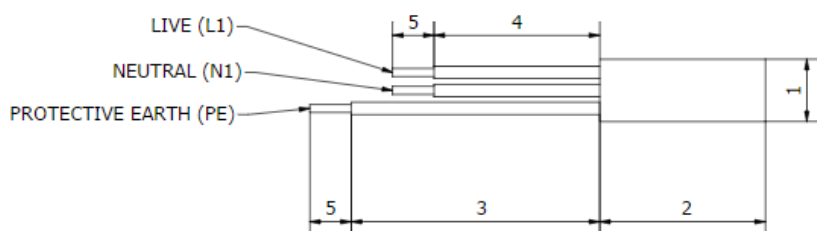

Figure 10: Wire length preparation diagram
- The mains power cable to the Sunamp Controller should be a minimum of 2.5mm2, 3 core HO5 VV-F sheathed cable, to BS 6500. This cable must be prepared according to Figure 10 (below), were the Green/
- Prepare the wire if necessary according to (Figure 10) and wire the mains power cable in the following terminals (Figure 12.2):
- Prepare if necessary, the mains power cable and wire in the following terminals (Figure 10):